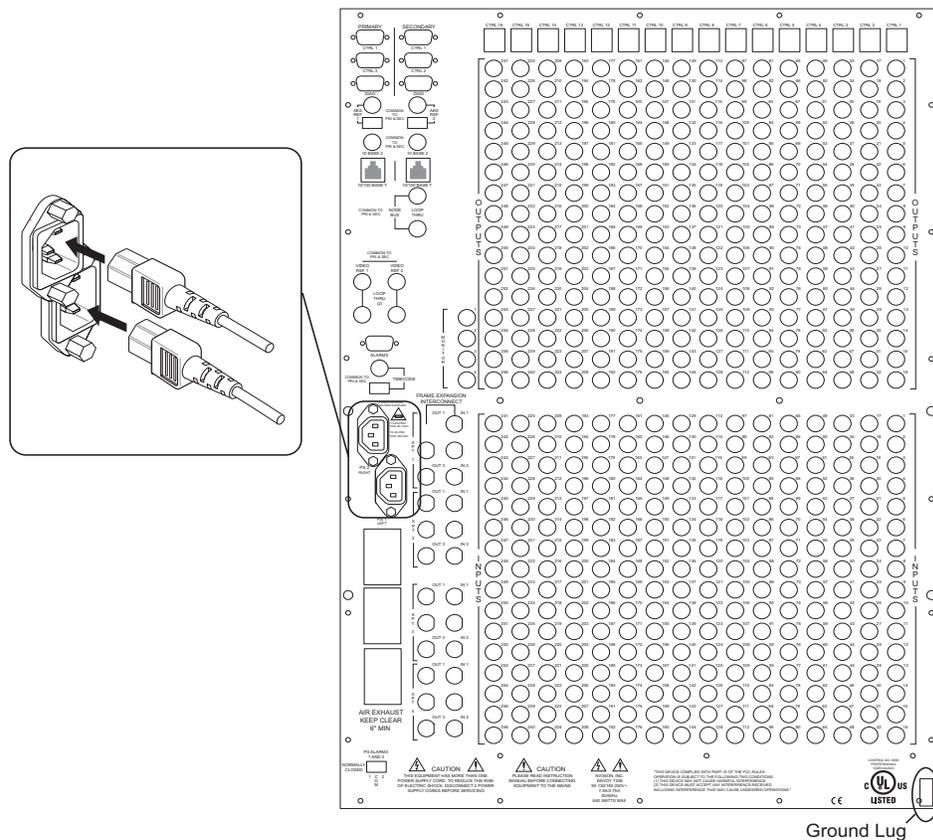

Figure 3-2. Example of AC Power Connections and Power Supply Connections (Rear View)
- 2 Facing the rear of the router, connect the main power cord from an AC power source (90-230 VAC 50-60 kHz) to the *PS 1* connection, as shown in Figure 3-2.
- 3 Facing the rear of the router, connect the redundant power cord from an AC power source (90-230 VAC 50-60 kHz) to the *PS 2* connector, as shown in Figure 3-2.
- 4 Facing the rear of the router, connect to the ‘Power Supply Monitor’ connection using a Phoenix connector (1 positive, 1 negative and 1 ground) and a 110Ω cable, as shown in Figure 3-2.
- 8 (Optional) Connect the ground lug to ground using a copper wire from 14 to 6 AWG. When facing the rear of the router, the ground lug is located in the farthest, lower, *right-hand* corner, as shown in Figure 3-2 on page 35.
- 4 Facing the rear of the first router (**router 1**), connect the other end of the 20-pin GMCT connector to ‘Power Input’ on the *first router only*. (See Figure 3-2 on page 35.)